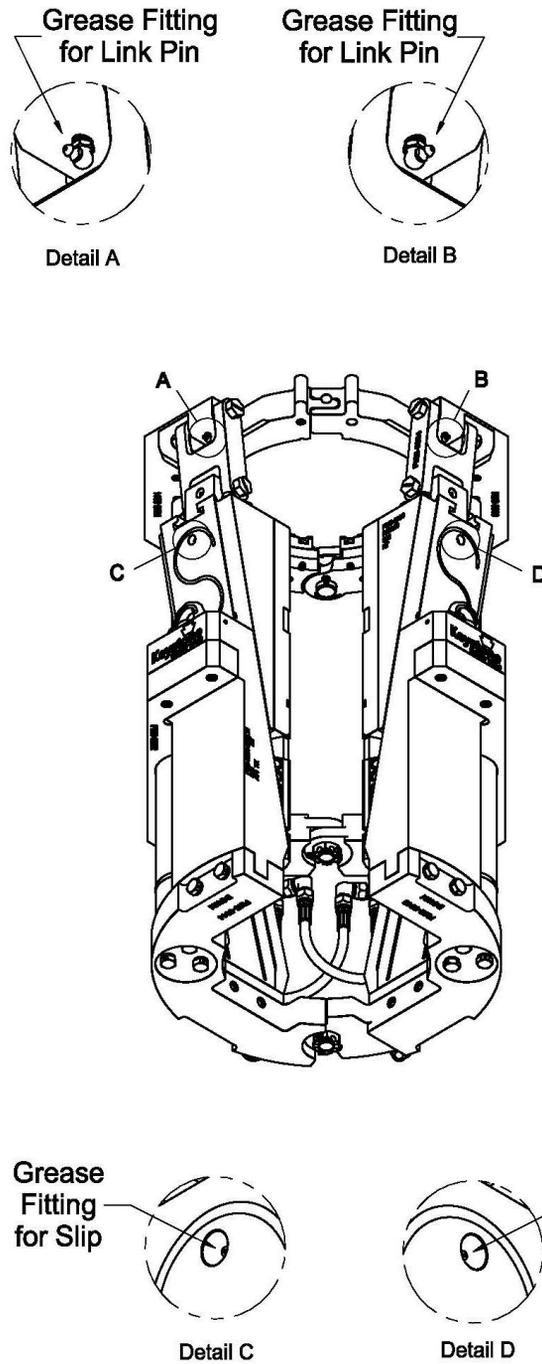

Fig. 33
Link Pins (see grease fitting locations under top plate see Detail A & B in Figure 33)	NLGI No. 2 Lithium or equivalent
- Grease all grease points locations (see fig. 33, 34, & 35).
- Grease all grease points and back of slips properly (see fig. 33, 34, & 35).